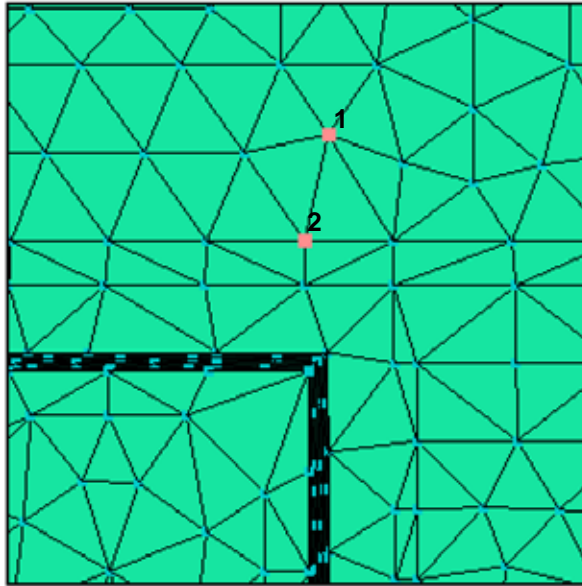

Figure 163: Selection to insert a node
- 4.1. Select the node labeled 1 in Figure 163.
- 4.2. Select the node labeled 2 in Figure 163.